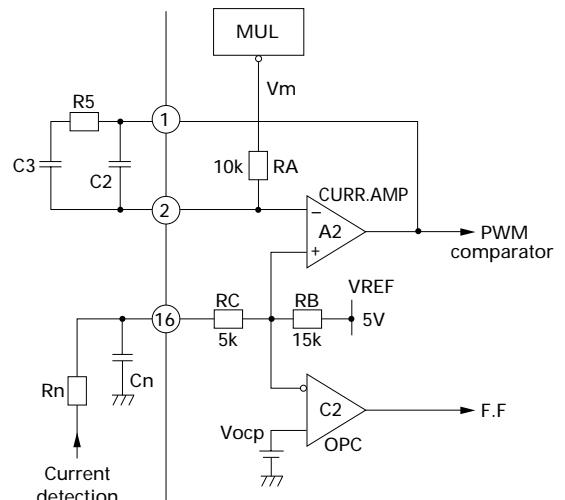
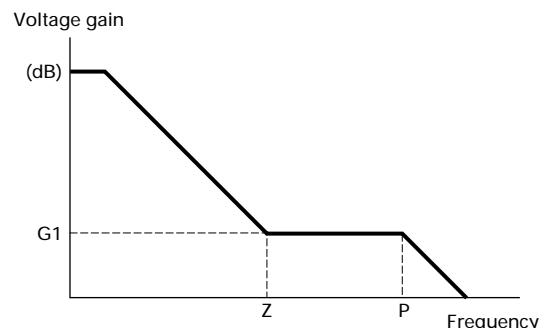

Fig. 3 Current error amplifier and overcurrent limiting circuit
Fig. 4 Voltage gain-frequency
The current error amplifier forms a current loop to change the input circuit current into sinusoidal waves. As Fig. 3 shows, the multiplier output is connected to pin 2 (IIN-) through a resistor (RA) to input the reference current signal. Pin 16 (IDET) is a current input terminal. Design the circuit so that the voltage at pin 16 will be within the range from 0 (GND potential) to -1.0V. Connect a phase correction resistor and capacitors across pin 1 (amplifier output) and pin 2. See Fig. 4 for the expected gain characteristics of the circuit shown in Fig. 3.
As Fig. 3 shows V_m is internally connected to pin 2 (IIN-) of the current error amplifier A2 through a 10kΩ resistor. (See the characteristic curve, page 66 for the input and output characteristics of the multiplier.)